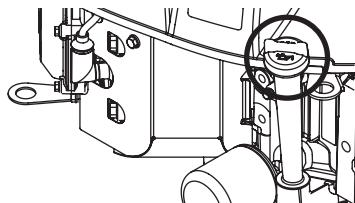

Figure 7
5. Remove the foam pre-filter (c) from around the paper air filter.(d) (Figure 7). Replace paper element when dirty or damaged. Clean foam element or replace when damaged.